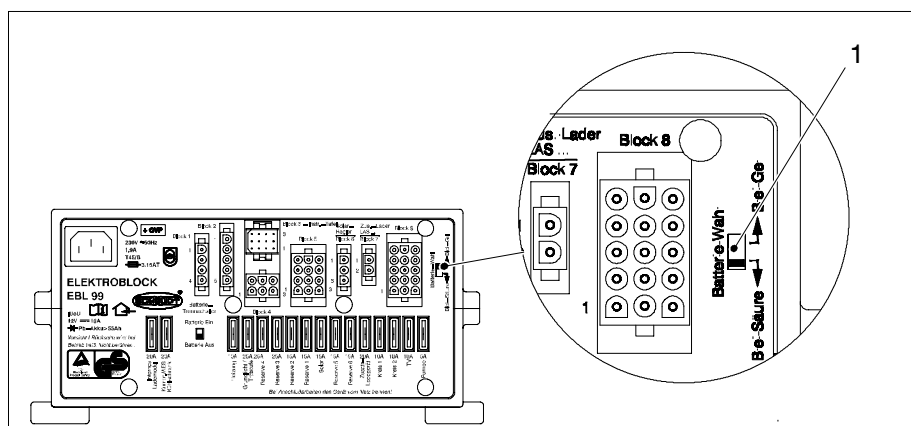

Fig. 1 Battery selector switch
- Set the battery selector switch (Fig. 1, Pos. 1) to the correct position using a thin object (e.g. a ballpoint pen):